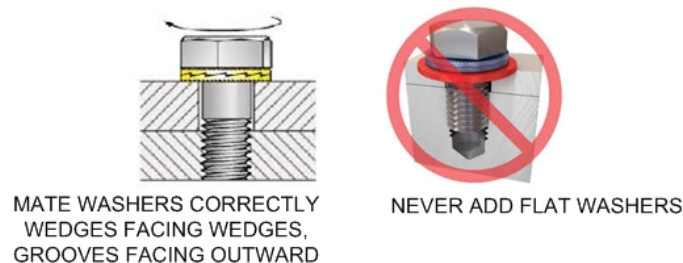

Figure 33. NORD-lock Washers Installation Details
- F. Install NORD-lock washers. (See Figure 33.)